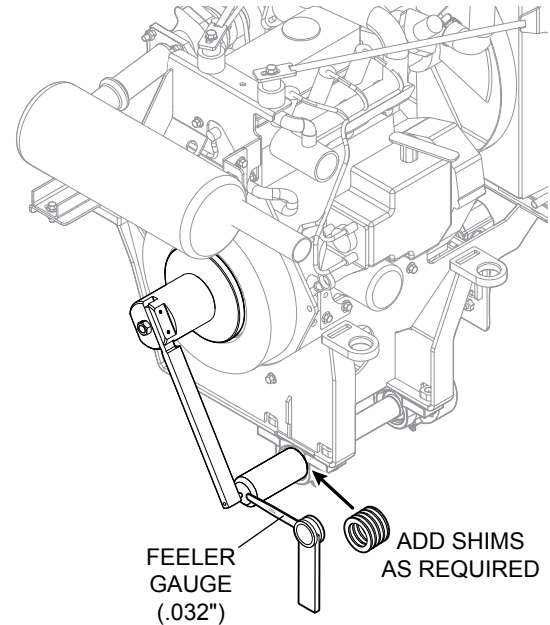

Figure 14. Shimming
5. Reinstall gauge sleeve onto cross shaft. Insert .032" feeler gauge (Figure 14) between gauge pin and gauge sleeve.